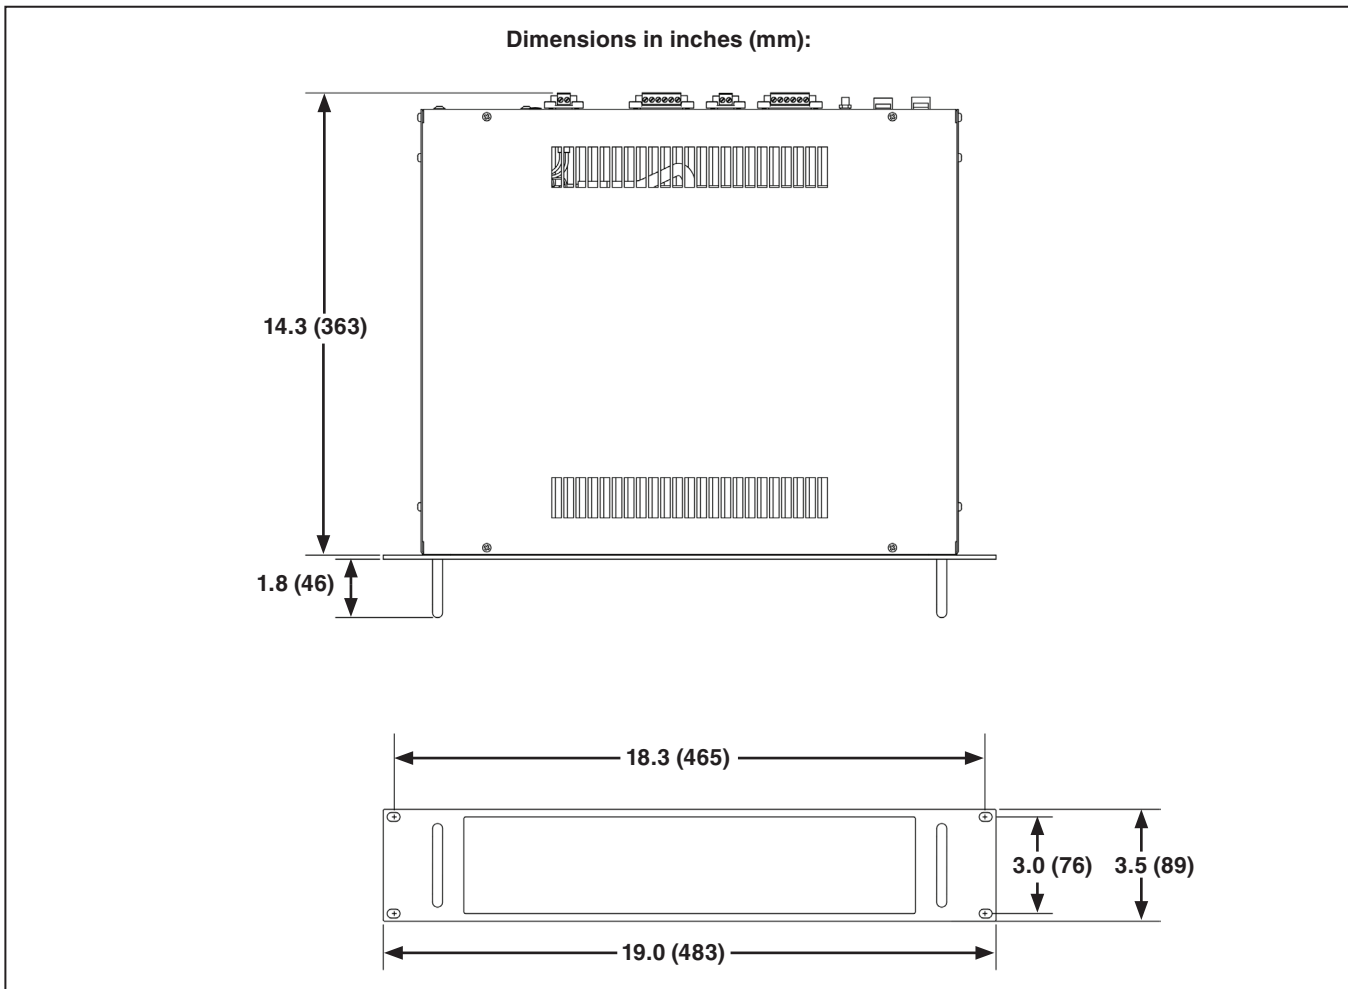

Figure 2. The rack-mounted controller dimensions and mounting hole centers.
- STEP 2.** Slide the controller into a 2U slot and use the appropriately sized mounting screws (10-32, 12-24, and M6 screws are most common) to install the GridMaster controller to the rack. See Figure 2. For installation in a rack without threaded holes, cage nuts and screws are recommended. Tighten the screws.